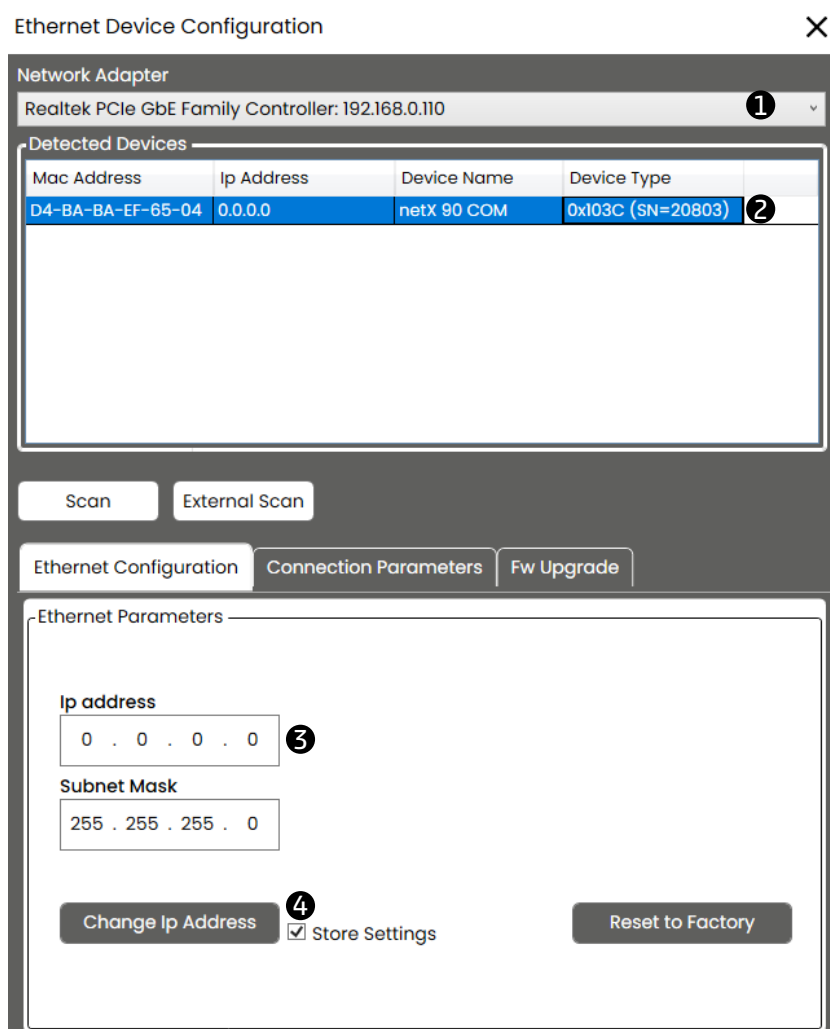

Figure 7.26: Ethernet device configuration window.
The *Ethernet device configuration* window will appear (see Figure 7.26). Choose the correct network adapter from the drop-down menu ①. After that the device connected will be visible ②, you need to select it and set the IP address ③.